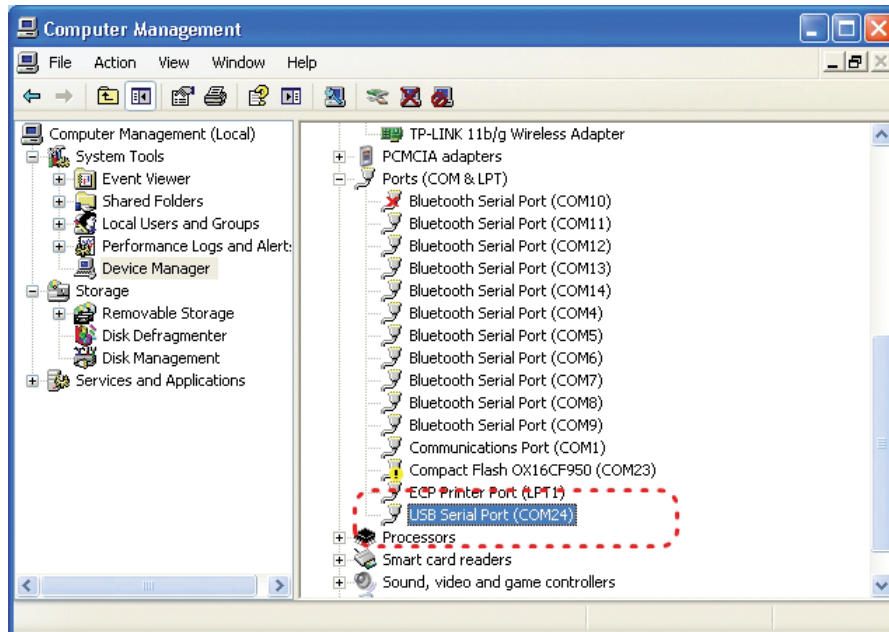

Figure 3.
If using a USB Adapter, the list of ports will be updated to reflect the new device. The LA GARD USB Interface Adapter can be identified in the list as **USB Serial Adapter**. The virtual COM Port assigned to the USB port where the Adapter is currently installed will follow the device description (Figure 3).
- If the COM port has been incorrectly set, return to the setup window (Figure 3), and reset the COM port to the correct one.